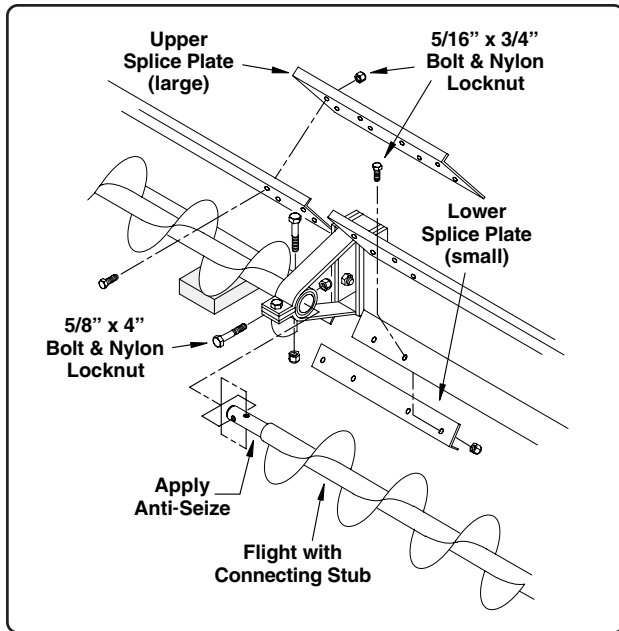

Fig. 14
3. Apply anti-seize compound to the stub on the next section of flight. Install the flight, sliding the stub end through the bearing holder and into the section of flight previously installed. Secure the flight sections using two 5/8" x 4" bolts and nylon locknuts. (See Fig. 14 on the previous page).
6. Attach splice plates to the sweep shield where necessary (See Fig. 14 on Page 20 for reference). Use eight 5/16" x 3/4" bolts and nylon locknuts on the upper splice plate (the larger plate) and use four 5/16" x 3/4" bolts and nylon locknuts on the lower splice plate (small plate).